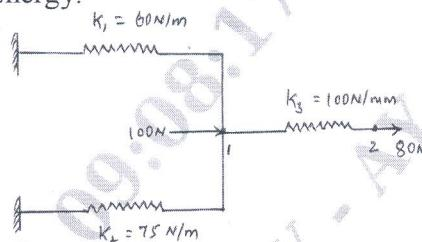

Fig. Q2 (a)
2. a. Determine the displacement at node 1 and 2 in the spring system shown in Fig. Q2 (a) by using principle of minimum Energy. (10 Marks)